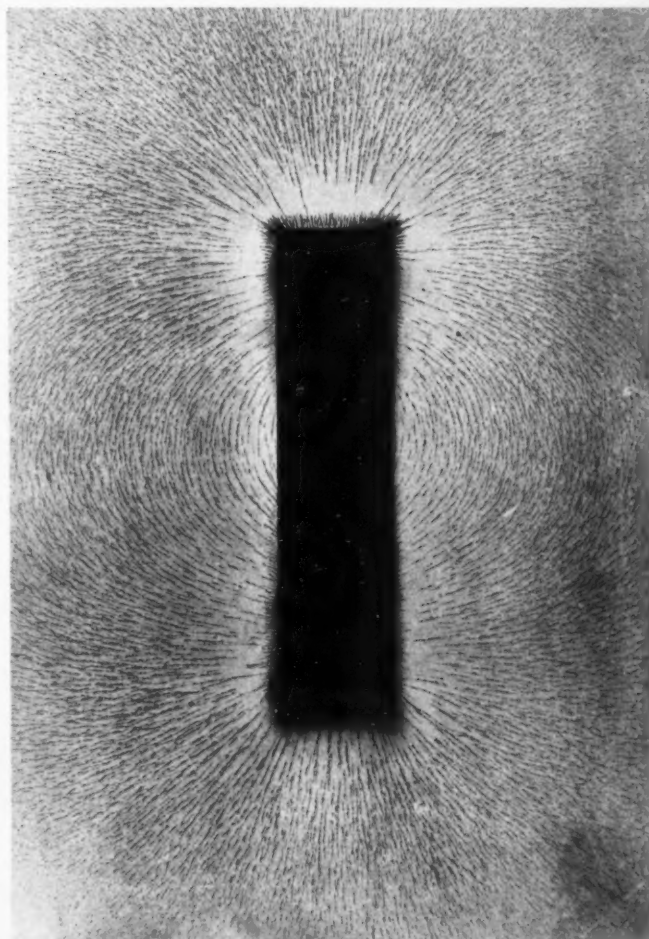
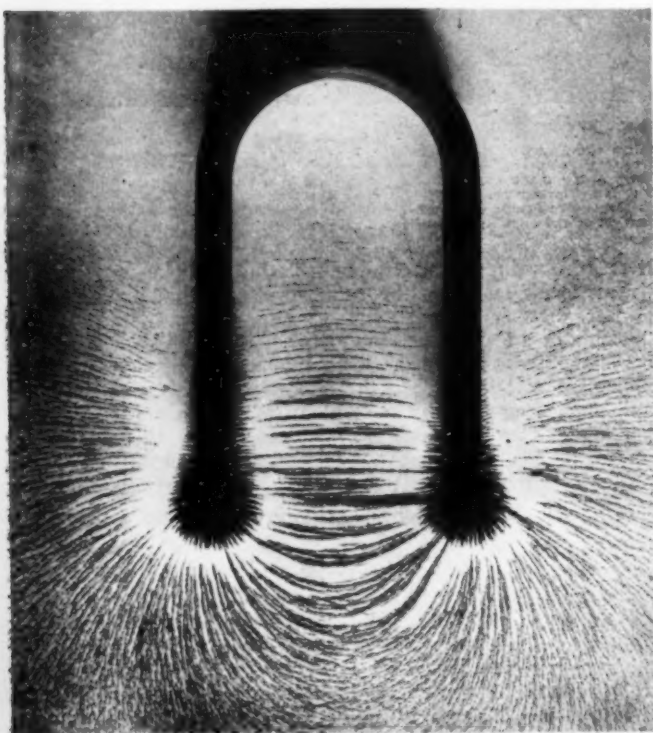

Fig. 2.—Lines of force in the field of a bar magnet.
Fig. 8.—Showing the field of a U magnet.
Since magnets exert a force upon each other and upon other substances which normally have no magnetism, without physical contact, as per the above definition of magnetism, it is obvious that magnetic influence extends across space in the neighborhood of a magnet. The space or region surrounding a magnet and in which magnetic influences exist is called a *magnetic field*. Upon investigation, this field is found to be traversed by so-called *lines of force*, each line being distinguished throughout its length from all other lines, the number of lines depending upon the magnetic strength of the magnet. The paths of the lines of force are curved, each extending from the positive (+) or N pole, through space to the negative (—) or S pole. This can be demonstrated in either of two ways: by bringing a small, freely pivoted magnetic needle into proximity with one of the poles of a relatively large magnet, and moving it away from that pole in the direction momentarily indicated by the direction of its length; or by the iron filings experiment, which gives a map of the lines of force existing in the plane in which the experiment is made, as in Fig. 2. In the figure a great number of particles take the place of the pivoted magnetic needle and assume positions in which their magnetic axes coincide as nearly as may be with the paths of the lines of force.
Fig. 2 also serves to illustrate another property of magnets, *i. e.*, the ability to cause bodies, hitherto not magnetized, to assume a condition and act in a manner identical with that of the energizing magnet itself. That is, upon bringing a piece of non-magnetized magnetic material within the field of a magnet, that substance at once assumes all the characteristics of the magnet itself, and retains them so long as it remains within the field.
This is called *magnetic induction*, from the fact that the characteristics of magnets, *magnetism* and *polarity*, are induced by the proximity of a magnet with its field in a body which does not normally possess them. Fig. 3 shows, upon a larger scale, what is shown in a general way in Fig. 2. As shown in Fig. 3, induced magnetism in one body is capable of inducing magnetism in another body, and that one in still another, and so on.
In verbal illustration of this, a simple experiment will be described: If a length of copper wire, say 30 or more feet, be stretched, not too tightly, from wall to wall, east to west, of a large room, and its circuit be closed through a delicate *galvanometer* or electric current indicating instrument, it will be found that, upon causing the wire to vibrate in a vertical direction, the galvanometer will indicate the passage of an electric current with each vibration. The explanation is that in vibrating vertically; that is, toward and away from the magnetic axis of the earth, the wire momentarily passes from a region of a given magnetic intensity to one of greater intensity, and vice versa, within the magnetic field of the earth, which is in all respects similar to the field of the bar magnet in Fig. 2. When the wire vibrates horizontally, it does not pass through regions of varying magnetic intensity, and, therefore, no electric pressure or current is induced in its circuit. Of course, the difference in intensity in the earth's field within the amplitude of the wire's vibrations is very slight, but it is sufficient to cause the induction of a current which is measurable with a delicate indicating instrument.
Note the difference in shape and intensity between this field as shown by the iron filings and that of the bar magnet in Fig. 2. A U magnet such as those used in a magneto is merely a bar magnet so bent as to bring the poles into close proximity and thus reduce the extent of the field and greatly increase its intensity.
The method designated as (1) provides a large field for endeavor. A great step is made toward intensifying the magnetic field by bending the bar magnet, Fig. 2, into the U form shown in Fig. 8. Here it will be noted that the lines of force through that part of the field lying between the poles is so intense, compared with the field of the bar, that the induced magnetism in the iron particles is sufficient to cause those lying in adjacent lines to pull together and leave apparently blank spaces in the map. By increasing the number of U magnets employed in creating a single field, the intensity or number of lines of force in the field is further increased. Experiment has proven that a high-grade alloy steel with a considerable percentage of tungsten will most readily retain magnetism, after it has once been hardened and magnetically saturated, see Fig. 3, by inserting it within the magnetic field of a solenoid, as in Fig. 7, of a great many turns of wire, and through which a heavy current of electricity is passed. This tungsten steel is used almost exclusively for magneto field magnets.
The readiness with which magnetic lines of force traverse any substance is measured by the unit of *permeability*, which refers to the number of lines of force passing through a given sectional area of a substance. When it is considered that all the lines shown in Fig. 2, or Fig. 8, and millions that are not thus shown as passing through surrounding space, all traverse the body of the magnet in completing their circuit, it appears that the permeability or magnetic capacity of steel is many thousands of times greater than that of air. Likewise, as in the above, the permeability of soft iron is greater than that of steel. For these reasons, the intensity or number of lines of force in the field in which the conductor is moved is highly